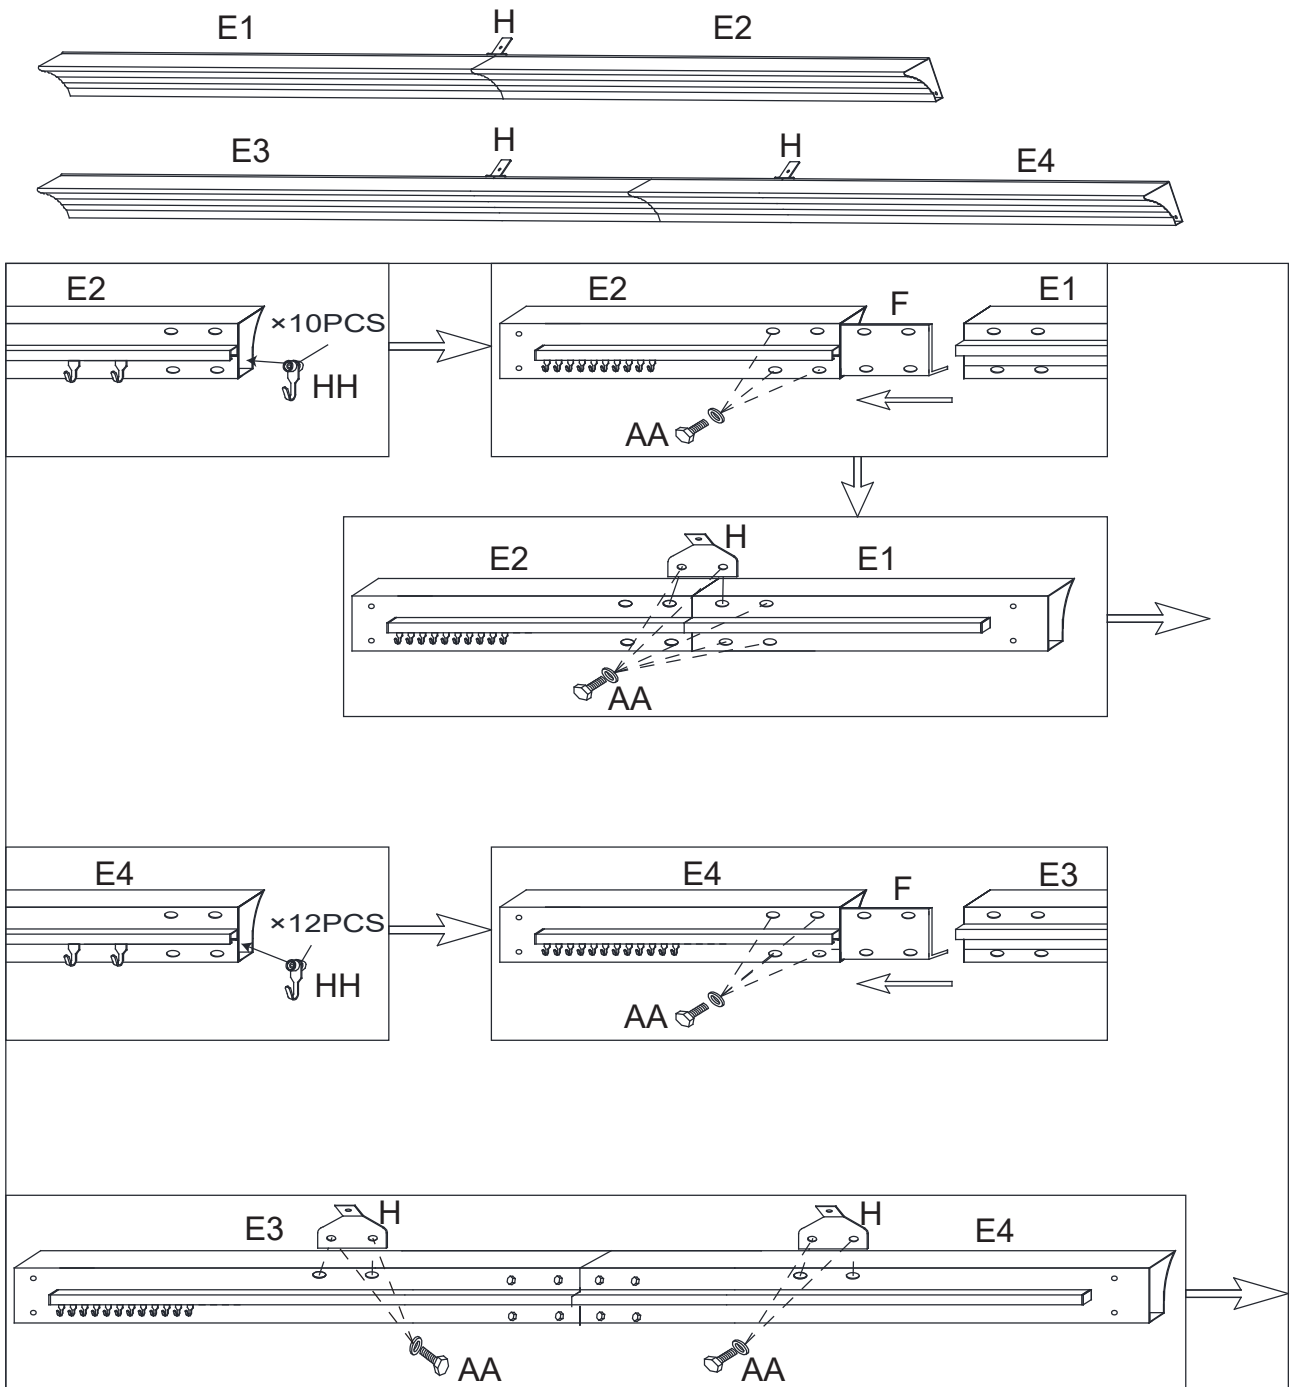

Fig 2
1-b. Insert the Hanger (HH) into the track of Right Lintel (E2). Insert the Connector (F) into Left Lintel (E1)/Right Lintel (E2), at the same time connect it to Left Lintel (E1)/Right Lintel (E2) by the Connector (H) with Bolt/Flat Washer M6*15(AA). Insert the Hanger (HH) into the track of Right Lintel (E4). Insert the Connector (F) into Left Lintel (E3)/Right Lintel (E4). Connect the Connector (H) to Lintel (E3/E4) by with Bolt/Flat Washer M6*15(AA). See Fig.2.